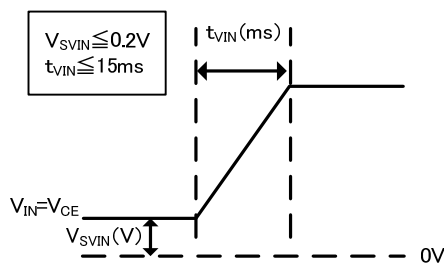

Figure 1. (Recommended for input wave form for  $V_{IN}=V_{CE}$ )
- As for power-on, when CE pin is used with connecting to  $V_{IN}$  pin,  $V_{IN}-V_{CE}$  voltage should begin rising from below 2.0V. Rise time should be less than 15ms. (Please refer to Figure 1.)